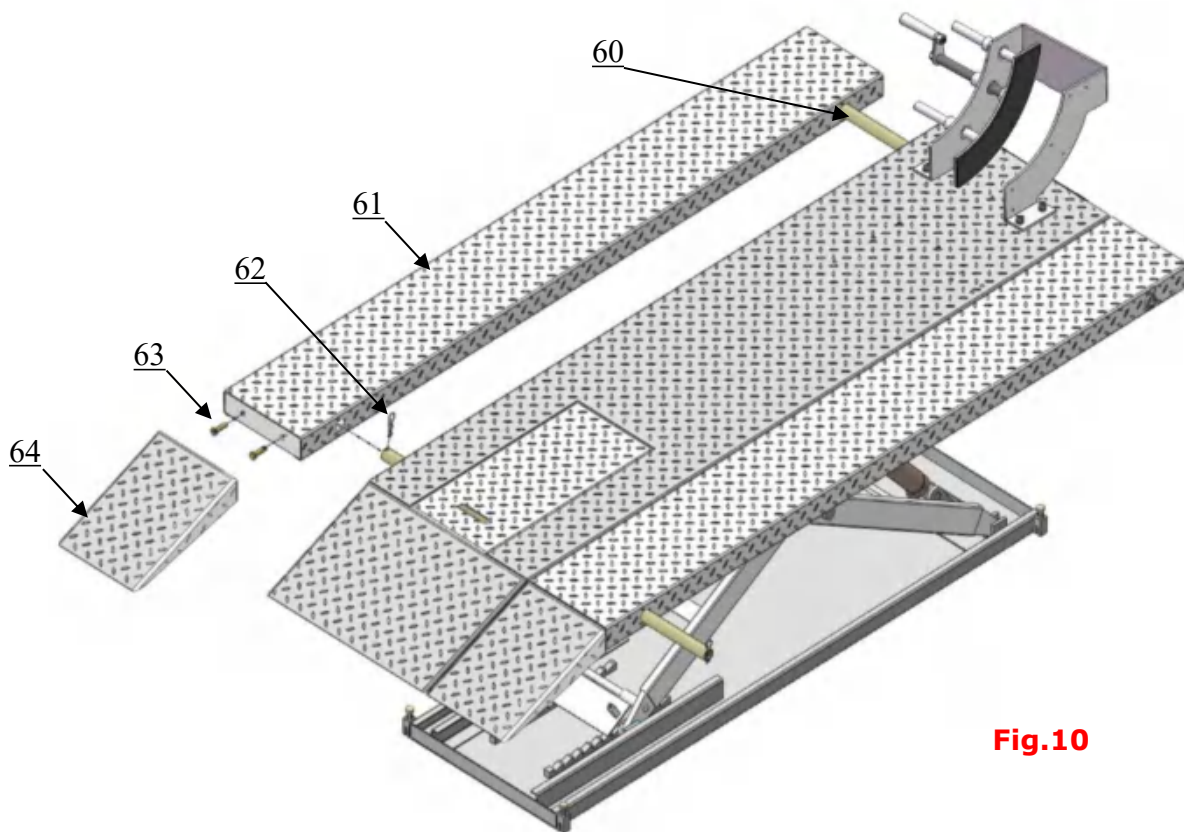

Fig.10
F. Install optional width extension kit(MC001). See Fig 10